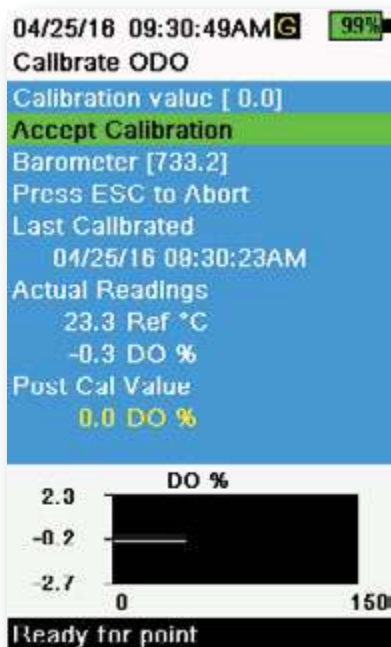

Figure 54 Calibrate ODO zero point
3. Observe the actual measurement readings for stability (white line on graph shows no significant change for 40 seconds), then select **Accept Calibration** (Figure 54). "Calibration successful!" will be displayed in the message area.